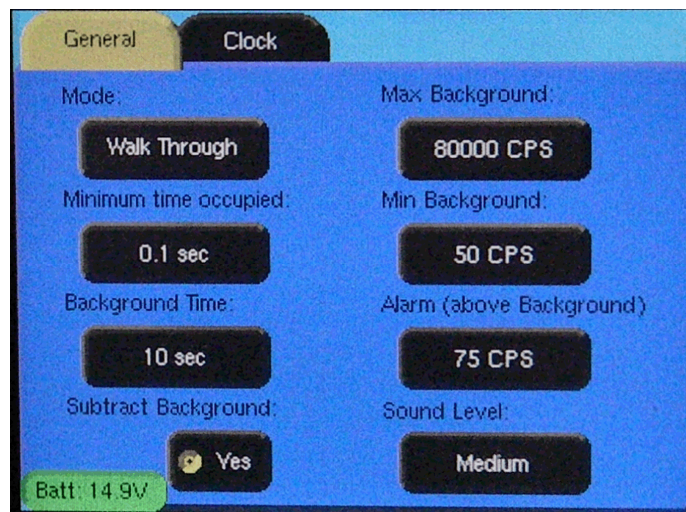

FIGURE 18
7.3.1.8 To set the other parameters of the AM-806 Touch the **SETUP** button on the right side of the monitor and the **SETUP SCREEN WILL APPEAR**. **Figure 18** shows the **SETUP SCREEN**. To set a parameter i.e. clock touch the **CLOCK** button. The screen for setting the clock will appear. Set the parameters on the screen as indicated (clock is set on 24 period, displayed on 12 hour period) . When all parameters have been completed touch the **APPLY** button at the bottom of the screen to save the settings.
7.3.2.2 SENSITIVITY CONTROL: The AM-806 sensitivity control is adjustable. The sensitivity is determined by the number of counts above background the ALARM (above background) shows on the SETUP SCREEN – IN FIGURE 18. When the AM-806 is shipped the ALARM above background is set to 75 cps. This should cause an alarm if the system is installed on a 72” doorway and a 2 μ Ci – Cs 137 test source is carried by a person through between the detectors. Installing the system on a small or wider doorway will require the ALARM cps be adjusted to a higher or lower number. EACH ALARM WILL REQUIRE THE USER TO RESET THE SYSTEM BEFORE IT WILL RETURN TO NORMAL OPERATION.